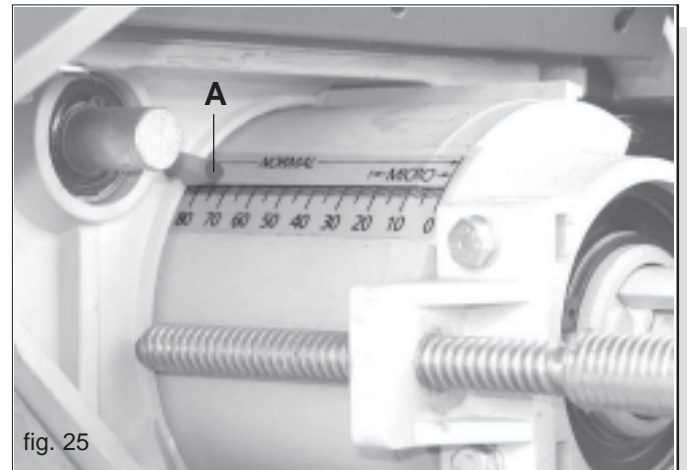

fig. 25
Thanks to a gearbox (A Fig. 21) it allows the distributor roller (B) to operate with two gear ratios, by changing the position of the red toothed wheel (C Fig. 21, 22, 23). In position «N» (Fig. 22), the gear ratio is 1:1, as imposed by the pair of toothed wheels Z19; when the wheel (C) is shifted to the «M» (Fig. 23) position, the distributor wheel halves the number of revolutions, as the drive is then composed of the red drive wheel Z14 and the drawn wheel Z28. When a dosing test, as described in chapter 4.1.2, is performed, it may be observed that the quantity of product distributed is halved (see Distribution Table) compared to the test using ratio 1:1. The position «M» of the toothed wheel (C) is necessary for the distribution of small seeds and quantities. The screw rod (D) enables the degree to which the gate opens (F, Fig. 21) to be adjusted depending on the value of the graduated scale, calculated using the table and the distribution test (chapter 4.1.2). The reference element for setting the gate valve opening is point A (Fig. 25).